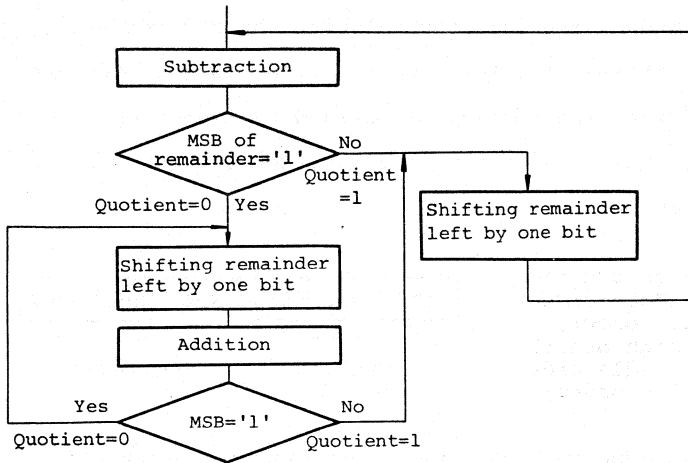

Fig. 3-3 Non-recovery method flowchart
- c-2) Perform a non-recovery operation based on the flowchart shown in Figure 3-3.